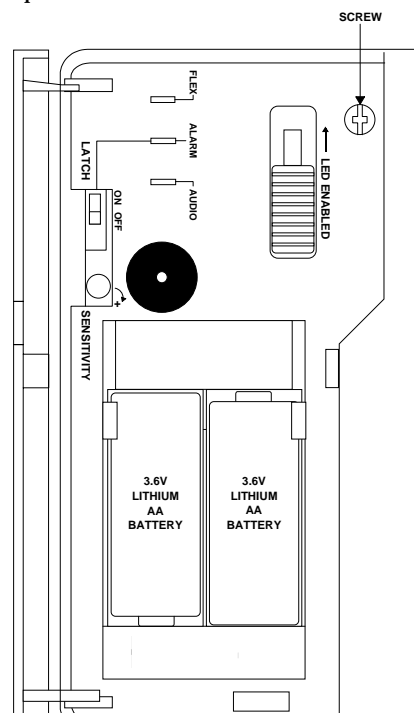

Figure 3. Screw Location
- 2) Remove the screw shown in Figure 3, using a Phillips screwdriver.